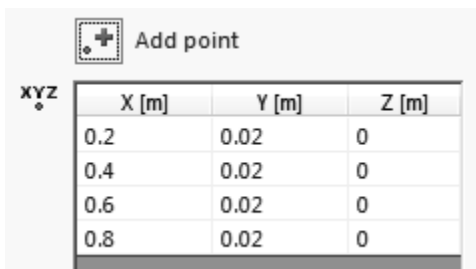
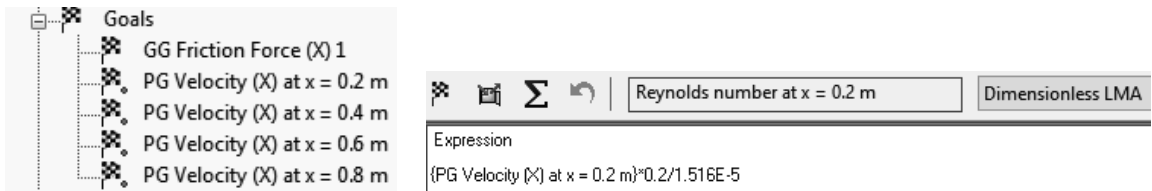

Figure 2.21e) Coordinates for point goals
Figure 2.21f) Renaming the point goals      Figure 2.21g) Entering an equation goal
21. Right click on **Goals** in the **Flow Simulation analysis tree** and select **Insert Global Goals...** Select **Friction Force (X)** as a global goal. Exit the **Global Goals** window. Right click on **Goals** in the **Flow Simulation analysis tree** and select **Insert Point Goals...** Click on the  $\begin{matrix} x & y & z \\ \hline \end{matrix}$  **Point Coordinates** button. Enter **0.2 m** for X coordinate and **0.02 m** for Y coordinate and click on the **Add Point** button  $\begin{matrix} + \\ \cdot \end{matrix}$ . Add three more points with the coordinates shown in figure 2.21e). Check the **Value** box for **Velocity (X)**. Exit the **Point Goals** window. Rename the goals as shown in figure 2.21f). Right click on **Goals** in the **Flow Simulation analysis tree** and select **Insert Equation Goal...** Click on **PG Velocity (X) at x = 0.2 m** goal in the **Flow Simulation analysis tree**, multiply by  $0.2$  (for  $x = 0.2$  m) and divide by  $1.516E-5$  (kinematic viscosity of air at room temperature ( $\nu = 1.516E-5$  m2/s) to get an expression for the Reynolds number in the **Equation Goal** window, see figure 2.21g). Select **Dimensionless LMA** from the dimensionality drop down menu. Exit the **Equation Goal** window. Rename the equation goal to **Reynolds number at x = 0.2 m**. Insert three more equation goals corresponding to the Reynolds numbers at the three other  $x$  locations. For a definition of the Reynolds number, see equation (2.15).